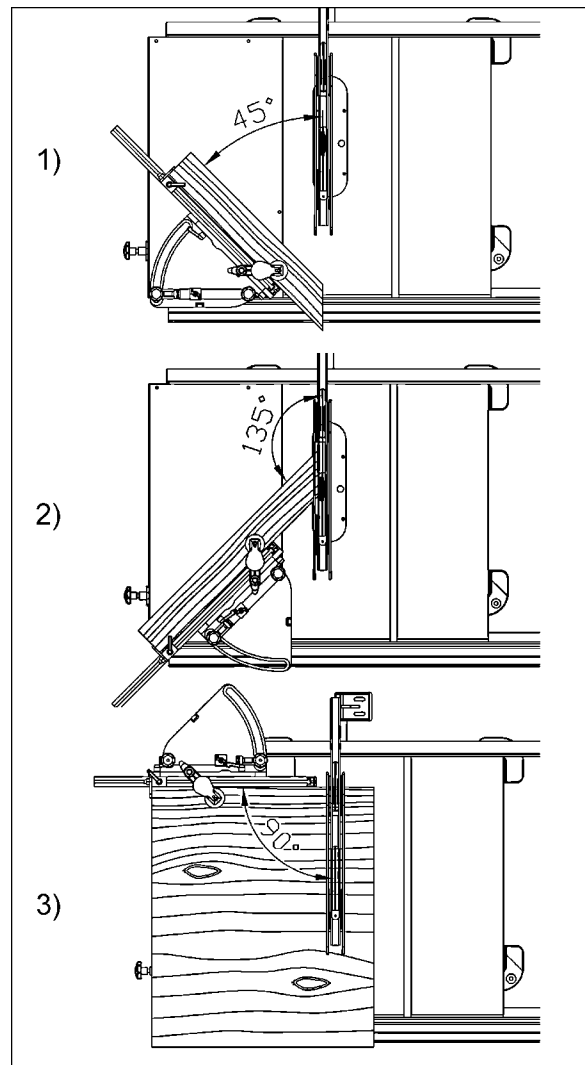

Fig. 22
- (1, Fig. 22) One set of threaded holes, up front to the far left, are for 90°-45° mitering.
- (2, Fig. 22) The staggered set of threaded holes, up front to the right, are for 90°-135° mitering. **Note:** using this position with the blade tilted to 45° you need to remove the miter gauge handle found on the right side and replace with the supplied 90° handle.
- (3, Fig. 22) The set of threaded holes, on the far side, are used for cutting at 90°.